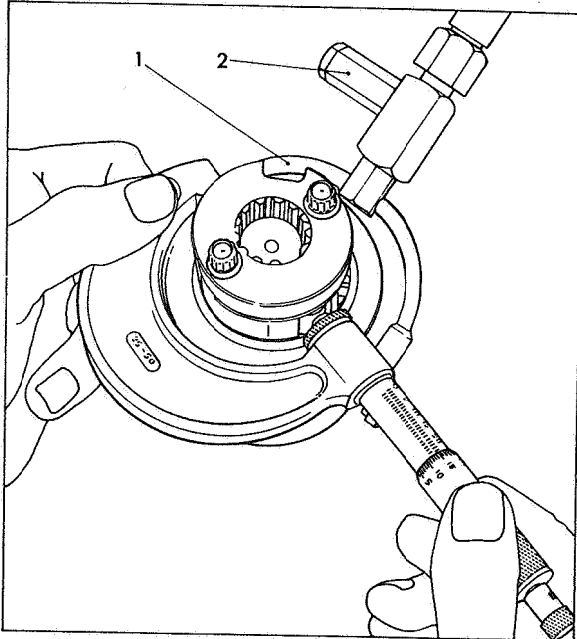

Fig 54 Measuring roller to roller dimension
Fit the Stirrup Pipe Tool Part No 7144-262A (1) Fig 54 (part of Tool Part No 7144-262) to two of the high pressure outlet ports on the head as shown and connect it to a nozzle testing unit. Operate the nozzle testing unit to raise the pressure to the figure specified in the Test Data sheet (generally 30 atm).